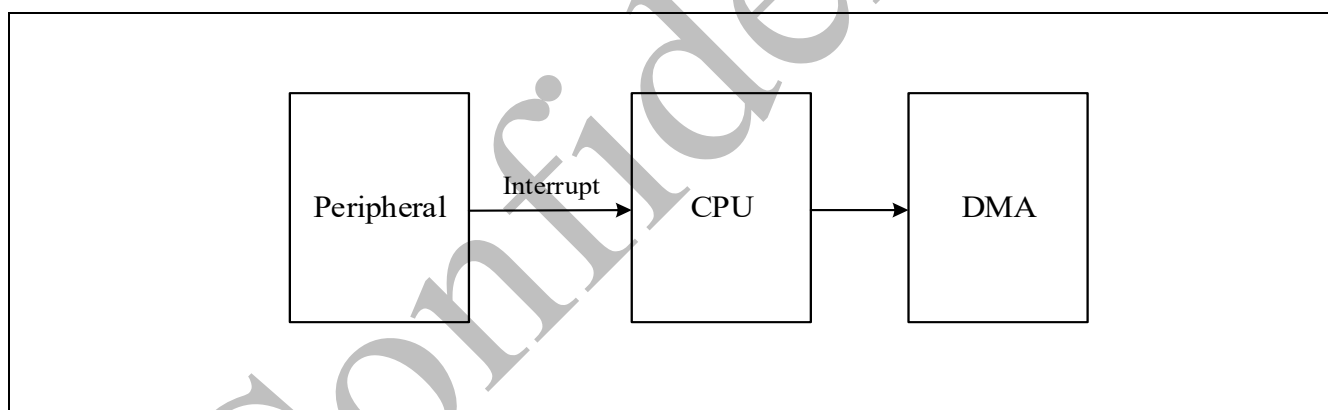

Figure 3-22 Software Controlled DMA Transfers
- When the slave peripheral requires the DMA to perform a DMA transaction, it communicates this request by sending an interrupt to the CPU or interrupt controller. The interrupt service routine then uses the software register, which shows in the Figure 3-22.